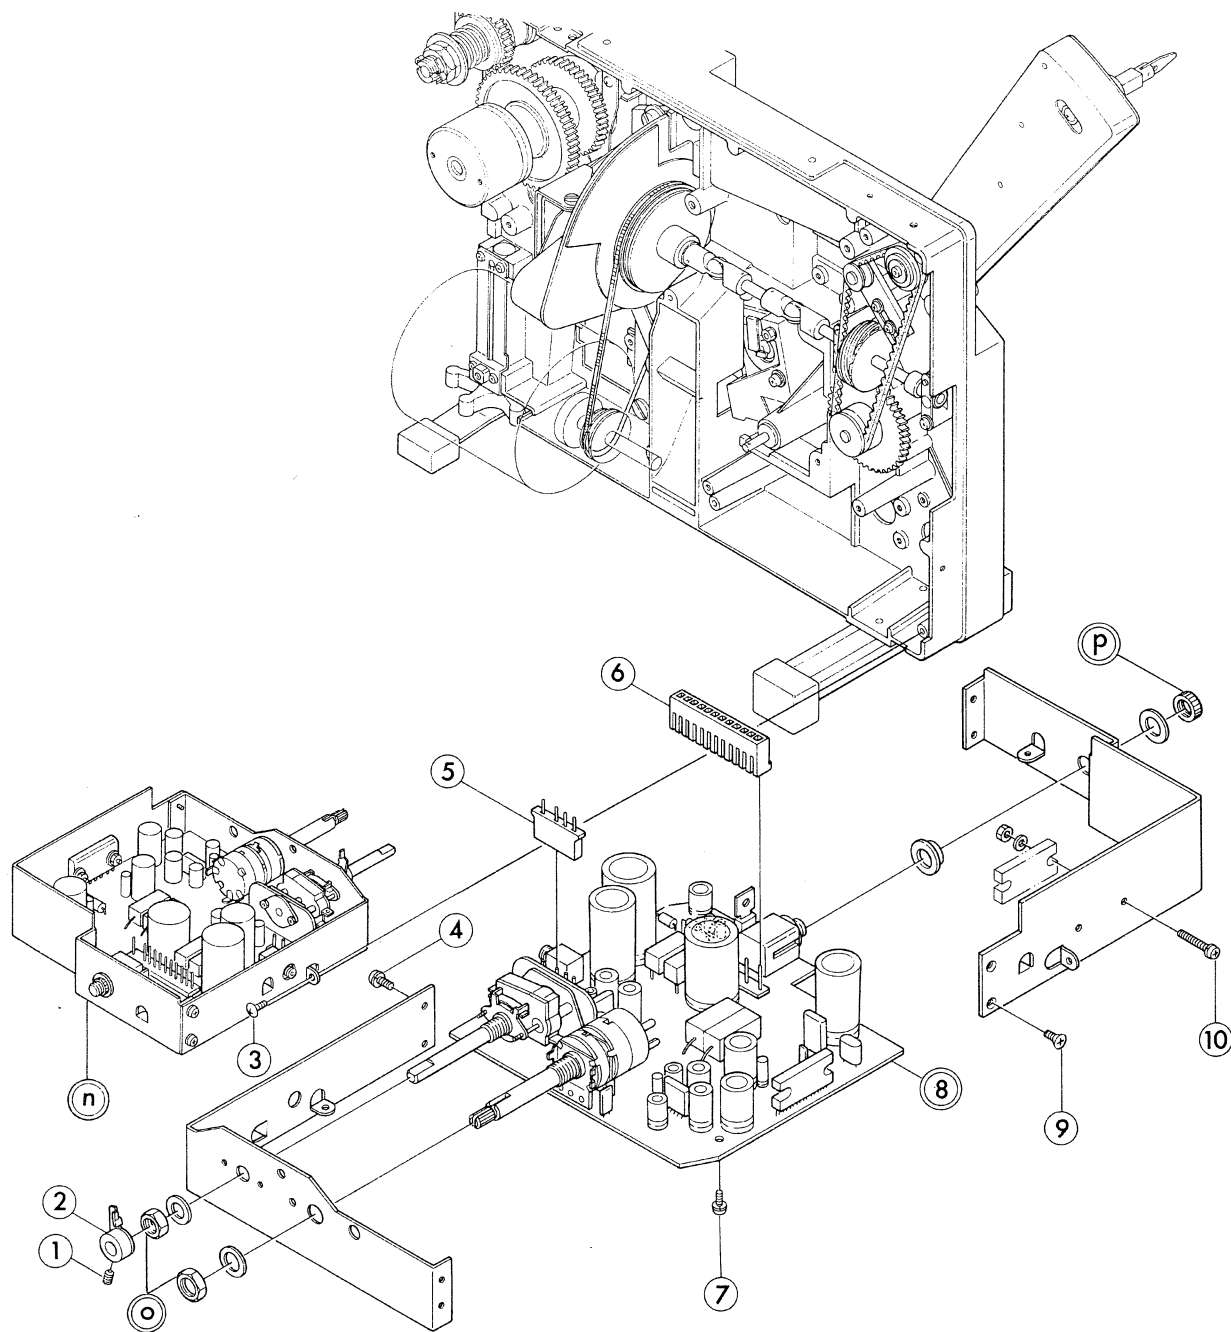

Fig. 18
- (3) Remove (n) in Fig. 18 by detaching Fig. 18-3x3.
- (4) After Fig. 18-1,2 are detached, remove (o) in Fig. 18 by turning it counterclockwise.
- (6) Remove (p) in Fig. 18 by turning it counterclockwise.